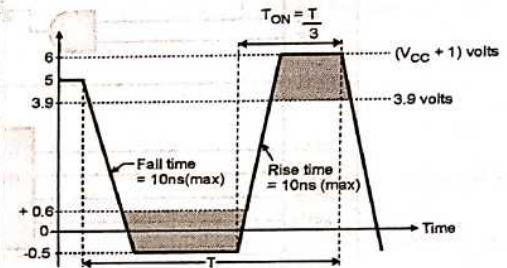

Fig. 3.2.1 : Clock signal required by 8086/8088
- Fig. 3.2.1 shows the clock signal required by 8086 with all the standard time durations and voltage levels.